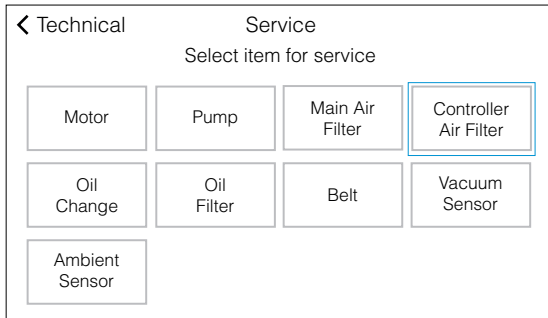

FIGURE 51. PRESS CONTROLLER AIR FILTER
9. On the Service screen, press **CONTROLLER AIR FILTER** (FIGURE 51).